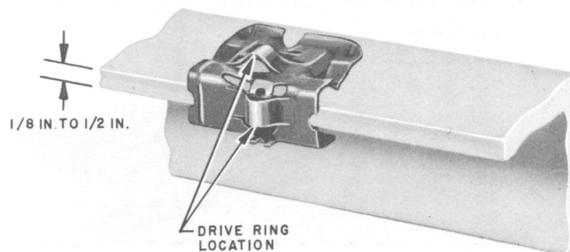

Fig. 10 — B Beam Clip, Bottom View
- A projection is provided on the opposite side and base of clip to accommodate all sizes of drive rings except the 1/2-inch (Fig. 10).